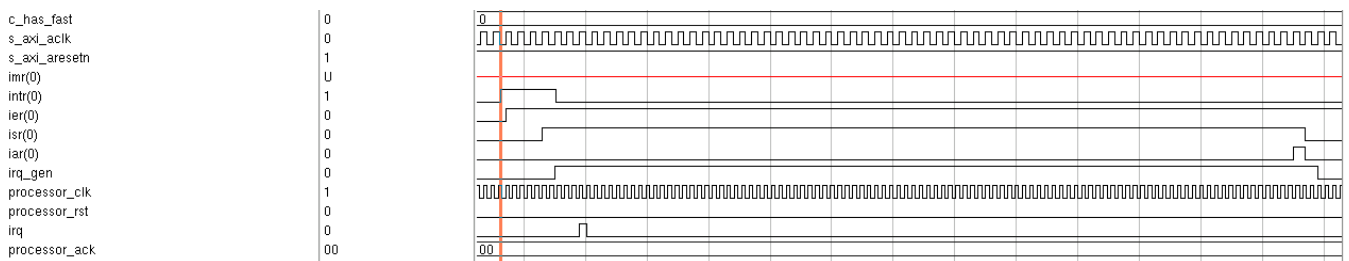

Figure 15: Input Intr - Edge Sensitive (Rising), Output Irq - Edge Sensitive (Rising), C_HAS_FAST = 0
- Configured Input Interrupt (Intr) for Edge sensitive (rising), Output Interrupt Request (Irq) to Edge sensitive (Rising), disabled fast interrupt logic (C_HAS_FAST = 0). Timing diagram is shown in Figure 15.